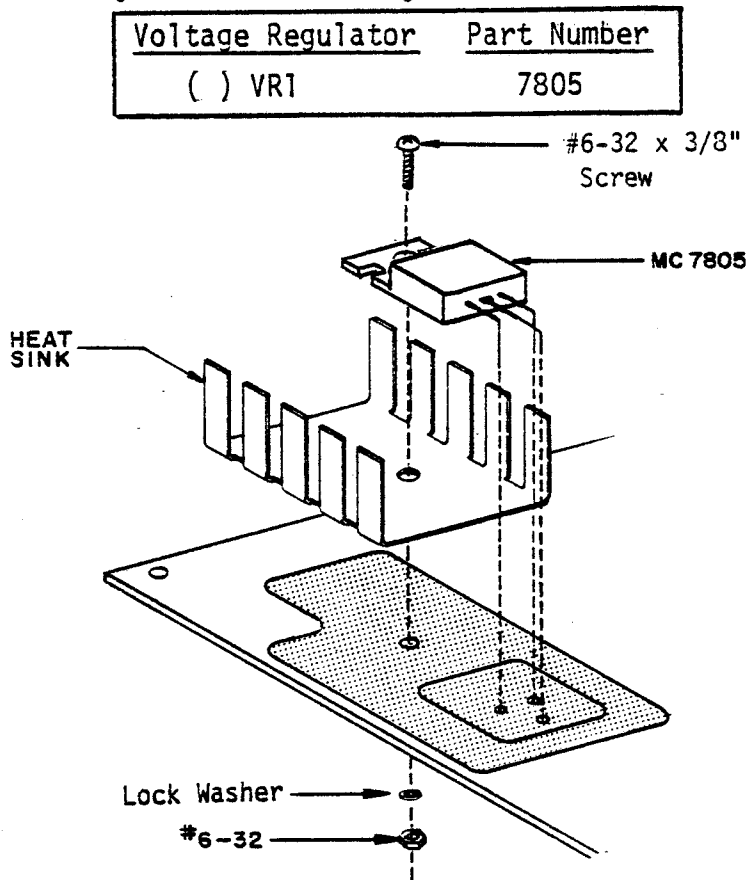

Figure 5-18a. Voltage Regulator Orientation
5-21. Voltage Regulator Installation (Figures 5-18a and 5-18)
3. Referring to Figures 5-18a and 5-18, set the regulator and heat sink in place on the silkscreened side of the board. Secure them in place with a #6-32 x 3/8 inch screw, a #6-32 nut and a #6 lockwasher.